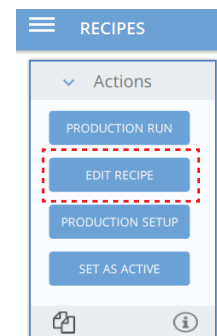

Figure 7: EDIT RECIPE
5. Return to Recipe screen, select **EDIT RECIPE** (see **Figure 7**) and then **SAVE**